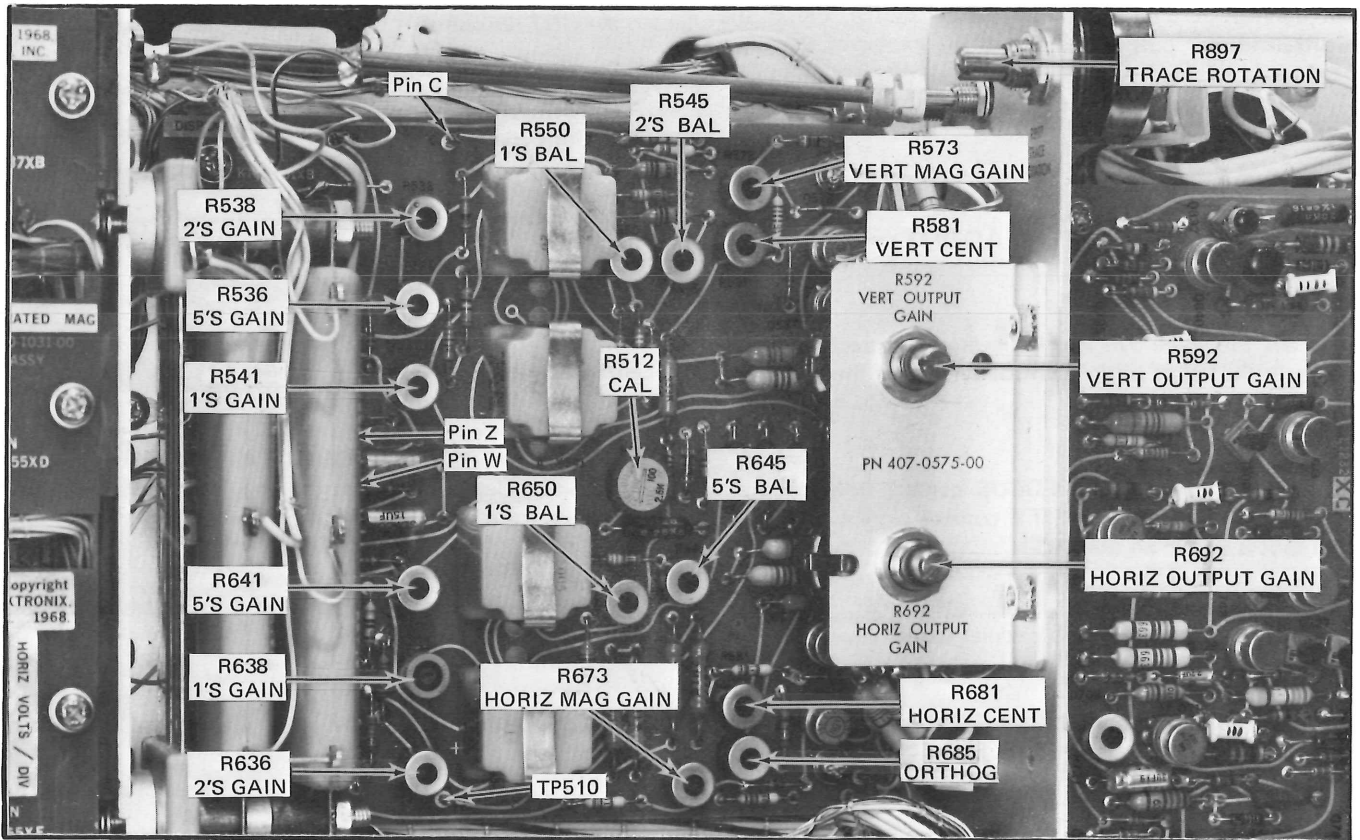

Fig. 1-5. DISPLAY AMP circuit board: Location of voltage checks and adjustments in steps 5 through 10.
i. ADJUST—R897, TRACE ROTATION adjustment on a chassis bracket on the right of the instrument (see Fig. 1-5) if the trace is not parallel.
k. Check for trace parallel with the vertical centerline (see Fig. 1-5).
l. ADJUST—R685, ORTHOGONALITY adjustment, on the DISPLAY AMP circuit board (See Fig. 1-5) if the trace is not parallel.
e. ADJUST—R681, HORIZ CENT adjustment, on the DISPLAY AMP circuit board (see Fig. 1-5) if the spot is not centered.
i. ADJUST—R650, 1'S BAL adjustment, on the DISPLAY AMP circuit board (see Fig. 1-5) if the spot is not centered.
l. ADJUST—R645, 5'S BAL adjustment, on the DISPLAY AMP circuit board (see Fig. 1-5) if the spot is not centered.
d. ADJUST—R581, VERT CENT adjustment, on the DISPLAY AMP circuit board (see Fig. 1-5) if the spot is not centered.
h. ADJUST—R550, 1'S BAL adjustment, on the DISPLAY AMP circuit board (see Fig. 1-5) if the spot is not centered.
k. ADJUST—R545, 2'S BAL adjustment, on the DISPLAY AMP circuit board (see Fig. 1-5) if the spot is not centered.
e. ADJUST—R692, HORIZ OUTPUT GAIN adjustment, and R592, VERT OUTPUT GAIN adjustment, on a chassis bracket on the right of the instrument (see Fig. 1-5) to remove one half the error noted in part d.
d. ADJUST—R673, HORIZ MAG GAIN adjustment, on the DISPLAY AMP circuit board (see Fig. 1-5) if the spot deflection is not correct.
i. ADJUST—R573, VERT MAG GAIN adjustment, on the DISPLAY AMP circuit board (see Fig. 1-5) if the spot deflection is not correct.
e. ADJUST—R636, 2'S GAIN adjustment, on the DISPLAY AMP circuit board (see Fig. 1-5) if the spot is not centered.
g. ADJUST—R512, CAL adjustment, (see Fig. 1-5) if the spot is not centered.
k. ADJUST—R638, 1'S GAIN adjustment, on the DISPLAY AMP circuit board (see Fig. 1-5) if the spot is not centered.
p. ADJUST—R641, 5'S GAIN adjustment, on the DISPLAY AMP circuit board (see Fig. 1-5) if the spot is not centered.